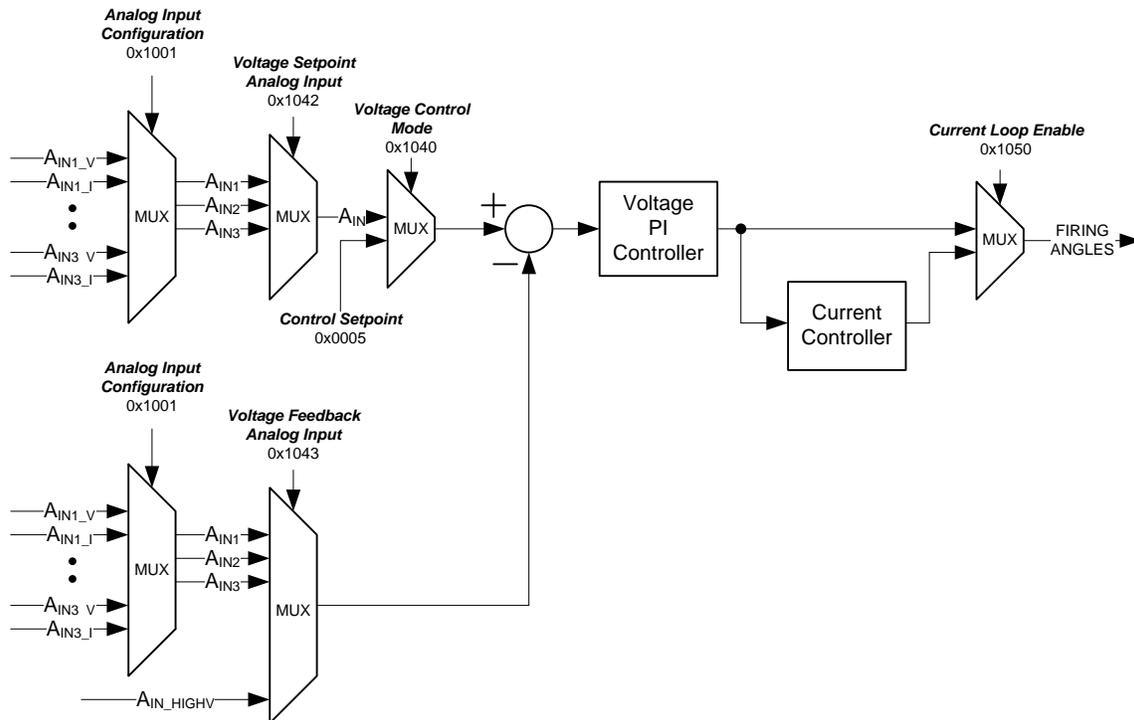
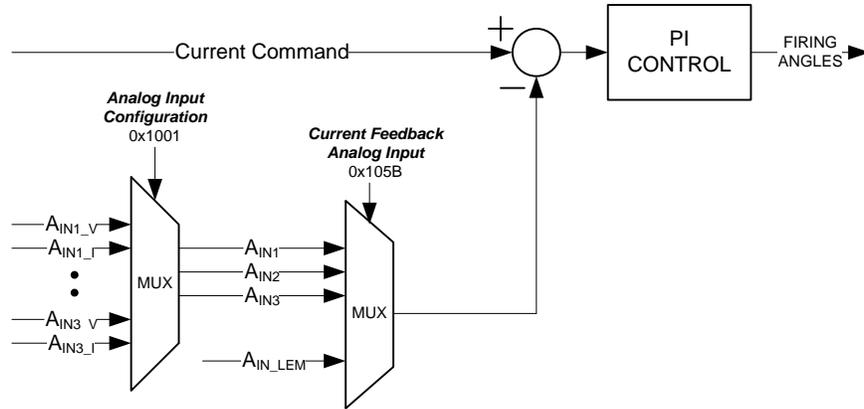

Figure 22 - Voltage Control Mode Block Diagram
Figure 24 - Inner Current Loop Block Diagram
The voltage controller is implemented as a classical Proportional plus Integral (PI) controller. All the PI controller gain settings are configurable using the Modbus interface. In addition, the voltage controller can be configured for multi-loop control using an inner current controller. Figure 22 provides a block diagram of the voltage mode controller. Figure 24 provides details
on the voltage PI controller and Figure 24 illustrates the inner current controller implementation.